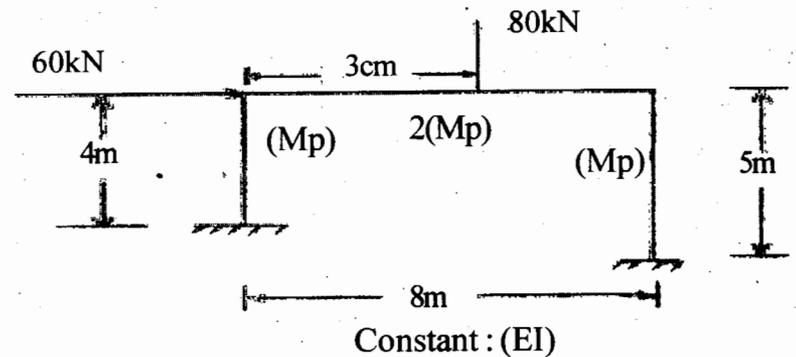

Fig.4
- g) Determine the plastic moment capacity M_p for the frame shown in Fig 4 given below